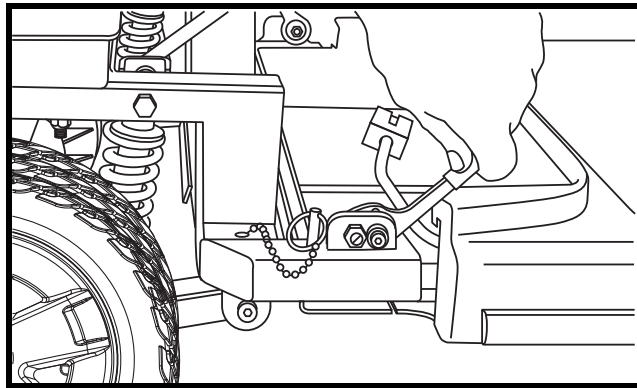

Figure 22. Locking Cam Levers (Unlocked Position)
8. Push the locking cam levers forward to the unlocked position and remove the ball detent pins. See figures 22 and 23.